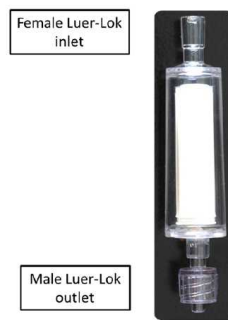

Figure 1: Position of the two tips of the Sterivex™ filter unit
- 1 Take the Sterivex™ filter unit (previously stored at  **-20 °C** after filtration). **Remove the Inlet Cap** (Figure 1) and add  **0.9 mL** of **Solution ST1B** using a pipette tip.